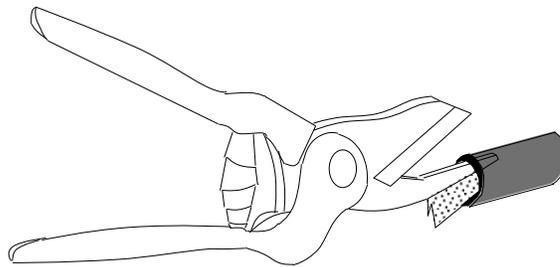

Figure 7 – Using Tabbing Shears to Cut Slit in Cable Jacket
12.02 After the cable has been installed into the closure, use tabbing shears (or similar tool) to cut through the armor and outer jacket. See **Figure 7**. Cut a slit approximately 1 to 1-1/2-inches (25.4 to 38mm), length-wise, from the cable ring cut.